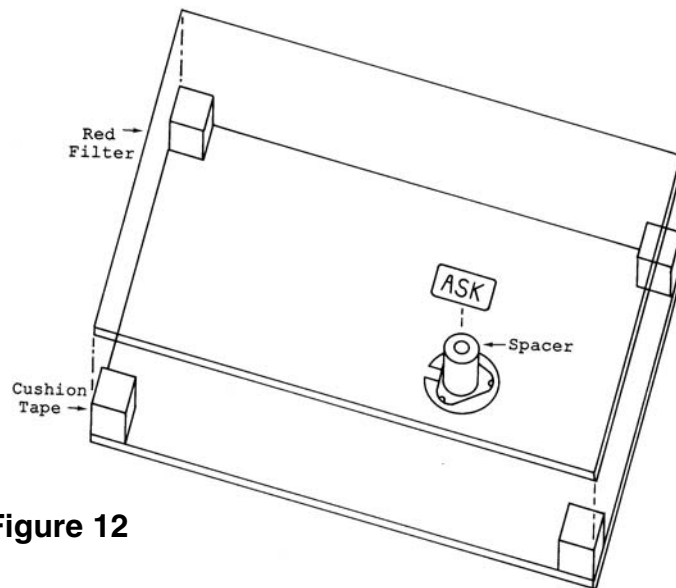

Figure 12
□ Stick the 7/32 inch spacer onto the dimple switch as shown in Figure 12.
- Use scissors or single edge razor blade to cut the thick cushion tape into four 1/4 inch pieces. Peel off one of the protective layers and stick the tape to the corners of the PC board as shown in Figure 12.
- Remove the remaining protective backing from the cushion tape. Align the word ASK on the red filter with the 7/32 inch spacer and stick the filter to the cushion tape as shown in Figure 12.